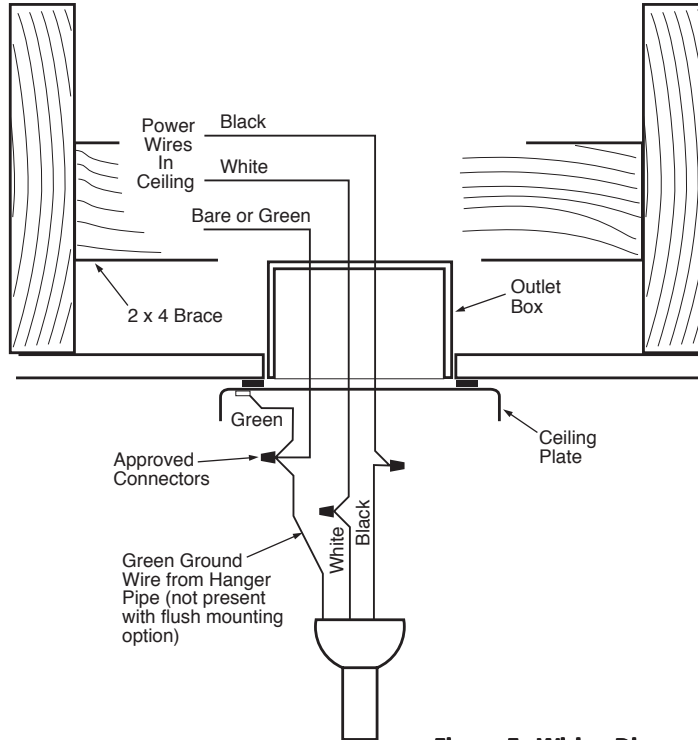

Figure 5 - Wiring Diagram
1. Connect the wires as shown in Figure 5. To connect the wires, twist the bare metal leads together. Place a wire nut over the intertwined length of wire and twist clockwise until tight as shown.